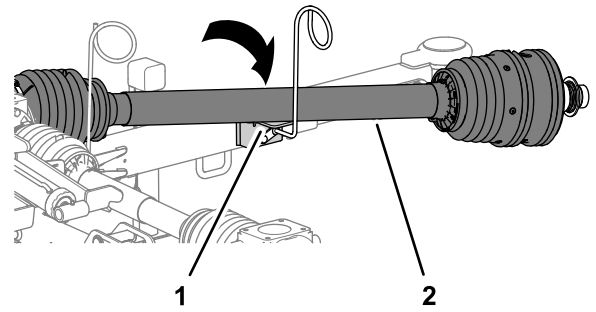

Figure 9
2. Move the PTO-drive shaft onto the drive-shaft rest of the hose guide (Figure 9).